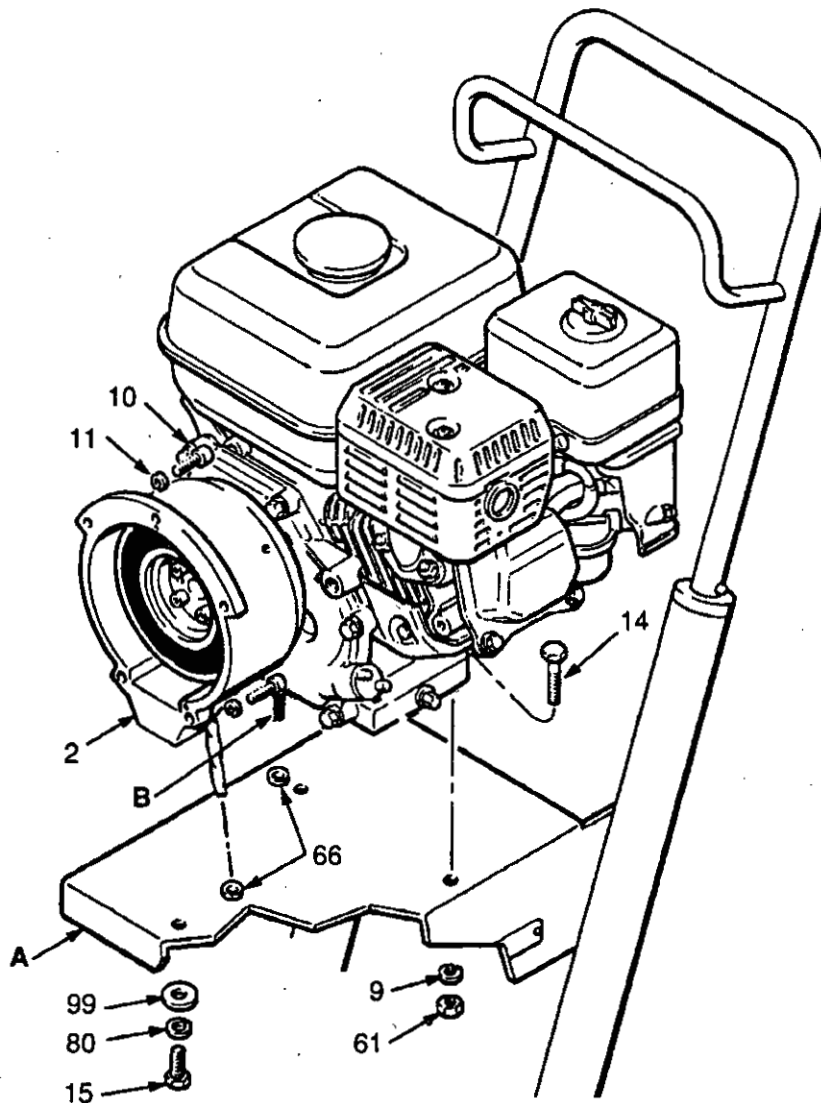

Fig 29-1
1. Working under the mounting plate (A) of the cart, remove the screw (15), lockwasher (80) and washer (99) which hold the clutch housing (2) to the cart. See Fig 29-1.
2. Still working under the mounting plate, remove the two nuts (61) and lockwashers (9), and then pull the screws (14) out of the base of the engine. Disconnect the red wire from the engine lead (B). Disconnect the black and white wires from the field. Pull the wires carefully through the grommets (66) before removing the engine. See Fig 29-1 and 29-2.